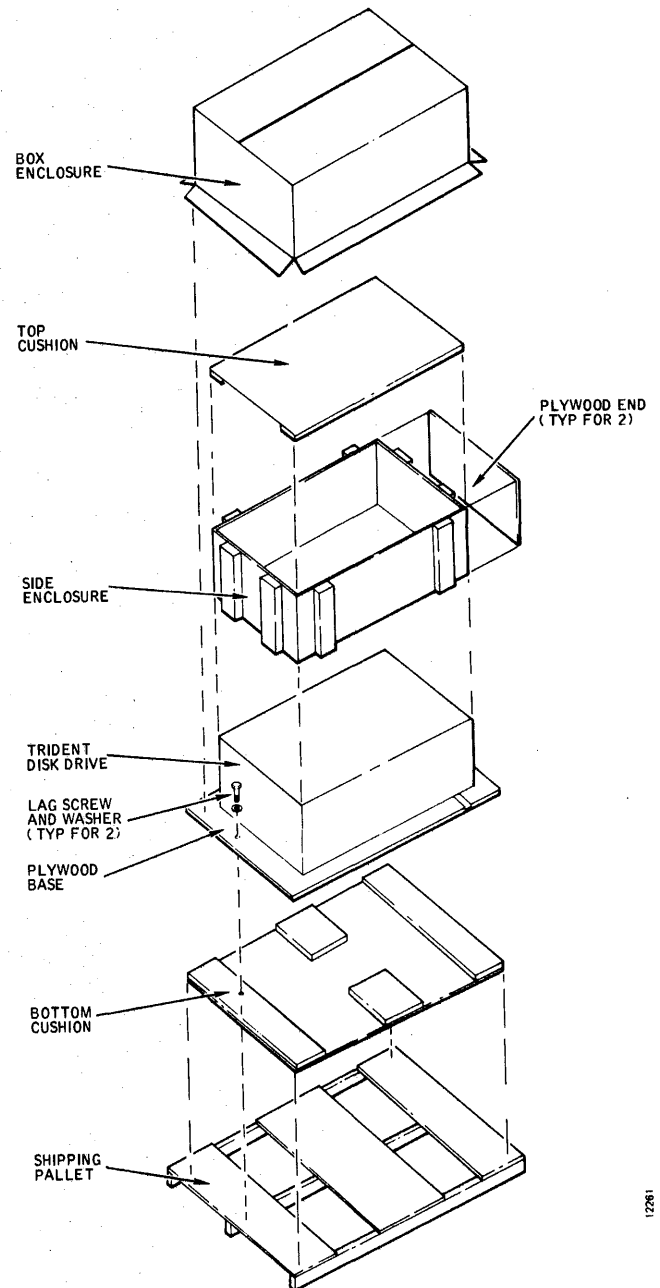

Figure 2-1. Trident Shipping Configuration
Trident Disk Drives are normally packed in double-wall corrugated containers bolted to wooden pallets (Figure 2-1) for both domestic and overseas shipment and handling. These containers can be stacked. If the exterior condition of the container or the appearance of the pallet indicates the likelihood of interior damage to the unit, unpacking should be carried out in the presence of the carrier or his agent where possible. In any case, units should be unpacked and checked for shipping damage as soon as received.
10. Lift the unit and attach a plywood base (Figure 2-1) to the bottom of the unit with four 3/8"-16 by 1-inch bolts. The grooved end of the base is toward the rear of the unit.